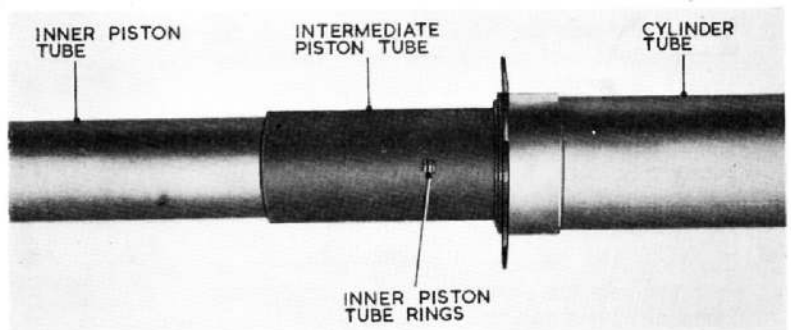

Fig. 11. Examining inner piston tube rings
- (2) Examine the piston rings for damage by gently rotating the intermediate piston tube and watching the rings through the aperture.
- (3) Apply a coat of grease XG-275 to the piston rings, then remove all trace of grease from the housing.
- (4) Gently extend the inner piston tube until the piston rings can be seen through one of the flash holes (*fig. 11*).
- (5) Examine and lubricate the inner piston rings by repeating actions (2) and (3).
- (6) Gently ease in the inner piston tube until it is fully home in the intermediate piston tube.
- (7) Pull out the release button but do not release it until the piston tubes have been pushed right home. When the release button is freed, the piston tubes should be found to be locked into the cylinder tube against withdrawal. On no account should the piston tubes be allowed to bottom hard before the release button is withdrawn, or the cylinder head locking tabs will be damaged.